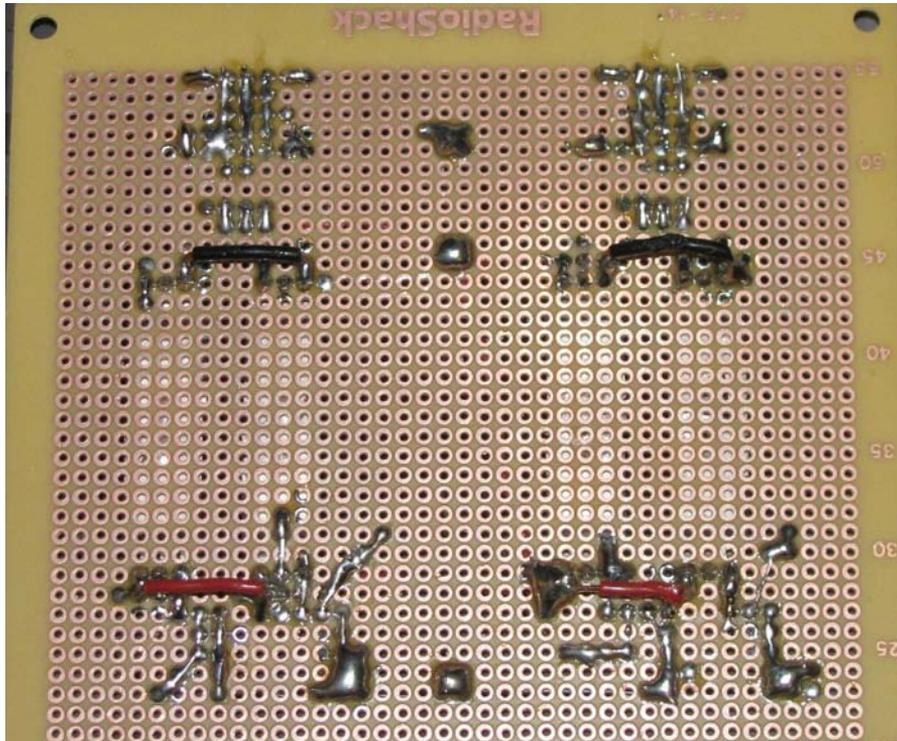

Figure 5-8. The underside of the perforated prototyping board
11. The top and bottom boxes in Figure 5-8, show where the pull-up and pull-down resistors go (all 10k ohm). The center boxes show the optional Gate resistors (150 ohm) for the N-channel power mosfets. These are not required and can be replaced with jumper wires. The bottom boxes show the TC4427 input pull-down resistors.
12. *Install headers and make connections:* I used (2) 5-pin female headers from Digikey for easy connections to the motor-controller.
After connecting the Header Pins, make common connections like the + Voltage and the Ground supply. The + Voltage wire should run from the P-channel mosfets Source pins down to the + Voltage supply of each TC4427 IC (pin 6). This supply wire should then connect to the positive battery power supply. I made some of these connections on the bottom of the board as shown in Figure 5-8. The Ground wire should connect all of the N-channel mosfets (power mosfet and signal mosfet) Source pins, as well as the Ground supply of each TC4427 IC (pin 3) —this wire can then also be connected to the negative battery power supply.